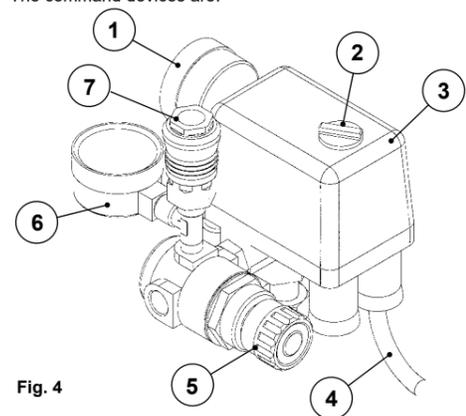

Fig. 4
- 1) Connect the appliance to the power supply by plugging it in (4 - Fig. 4).
- 2) Switch on the appliance using the "ON-OFF" switch (2 - Fig. 4) ensuring it is in the "ON (I)" position (the appliance is operational until it reaches a maximum operating pressure of 8 bar, after which, it switches off automatically).
- 3) Regulate the outlet pressure using the relevant regulator (5 - Fig. 4), according to the utensil used and type of work.
Control the pressure displayed by the relevant gauge (6 - Fig. 4).
- 1) Switch off the appliance using the "ON-OFF" switch (2 - Fig. 4) ensuring it is set to "OFF (0)".
- 2) Disconnect the machine from the mains power supply by removing the power cable plug (4 - Fig. 4) from the socket and place it near the machine.
- 4) Disconnect the air pipe (extension) from the appliance air outlet spigot (7 - Fig. 4).
Appliance emergency stop can be carried out by turning the "ON-OFF" switch to the "OFF(0)" position (2 - Fig. 4). In order to avoid any possible danger, authorised operators must carry out the following operations: